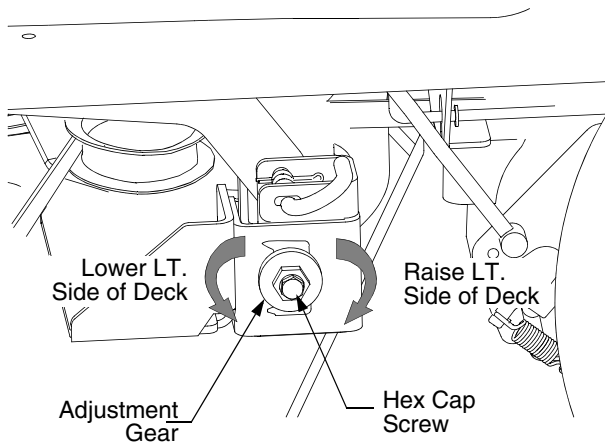

Figure 32
- Loosen, but do not remove, the hex cap screw on the left deck hanger bracket. Refer to Figure 32.
- Level the deck by using a wrench to turn the adjustment gear (found immediately behind the hex cap screw just loosened) clockwise to raise the left side of the deck, or counterclockwise to lower the left side of the deck. See Figure 32.